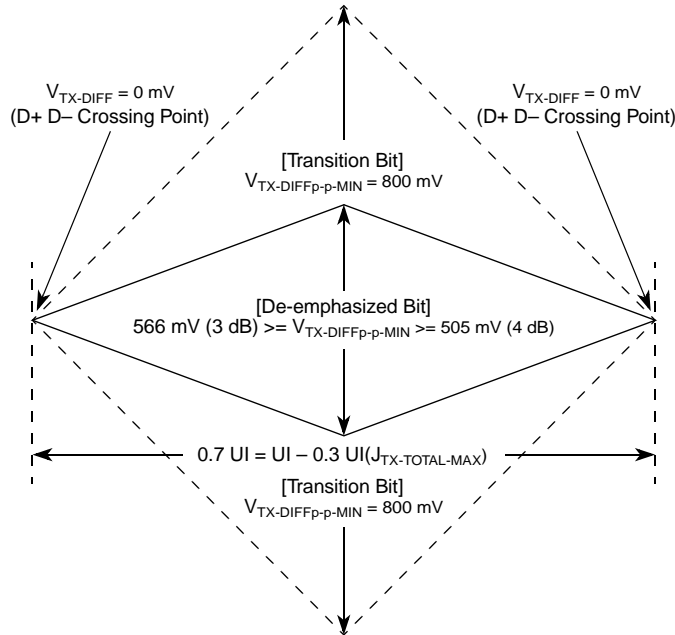
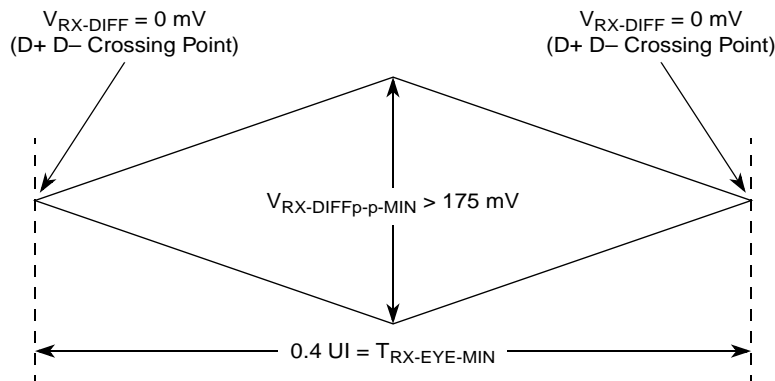
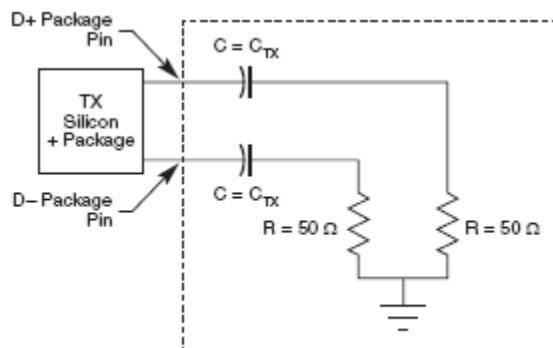

Figure 49. Minimum Transmitter Timing and Voltage Output Compliance Specifications
Figure 50. Minimum Receiver Eye Timing and Voltage Compliance Specification
Figure 51. Compliance Test/Measurement Load
2. Specified at the measurement point into a timing and voltage compliance test load as shown in Figure 51 and measured over any 250 consecutive TX UIs. (Also refer to the transmitter compliance eye diagram shown in Figure 49.)
4. The transmitter input impedance shall result in a differential return loss greater than or equal to 12 dB and a common mode return loss greater than or equal to 6 dB over a frequency range of 50 MHz to 1.25 GHz. This input impedance requirement applies to all valid input levels. The reference impedance for return loss measurements is 50 Ω to ground for both the D+ and D- line (that is, as measured by a vector network analyzer with 50- Ω probes, see Figure 51). Note that the series capacitors, C_{TX} , is optional for the return loss measurement.
5. Measured between 20%–80% at transmitter package pins into a test load as shown in Figure 51 for both V_{TX-D+} and V_{TX-D-} .
The TX eye diagram in Figure 49 is specified using the passive compliance/test measurement load (see Figure 51) in place of any real PCI Express interconnect + RX component. There are two eye diagrams that must be met for the transmitter. Both diagrams must be aligned in time using the jitter median to locate the center of the eye diagram. The different eye diagrams differ in voltage depending on whether it is a transition bit or a de-emphasized bit. The exact reduced voltage level of the de-emphasized bit is always relative to the transition bit.
2. Specified at the measurement point and measured over any 250 consecutive UIs. The test load in Figure 51 should be used as the RX device when taking measurements (also refer to the receiver compliance eye diagram shown in Figure 50). If the clocks to the RX and TX are not derived from the same reference clock, the TX UI recovered from 3500 consecutive UI must be used as a reference for the eye diagram.
4. The receiver input impedance shall result in a differential return loss greater than or equal to 15 dB with the D+ line biased to 300 mV and the D- line biased to -300 mV and a common mode return loss greater than or equal to 6 dB (no bias required) over a frequency range of 50 MHz to 1.25 GHz. This input impedance requirement applies to all valid input levels. The reference impedance for return loss measurements for is 50Ω to ground for both the D+ and D- line (that is, as measured by a vector network analyzer with $50\text{-}\Omega$ probes, see Figure 51). Note that the series capacitors, C_{TX} , is optional for the return loss measurement.
The RX eye diagram in Figure 50 is specified using the passive compliance/test measurement load (see Figure 51) in place of any real PCI Express RX component. In general, the minimum receiver eye diagram measured with the compliance/test measurement load (see Figure 51) is larger than the minimum receiver eye diagram measured over a range of systems at the input receiver of any real PCI Express component. The degraded eye diagram at the input Receiver is due to traces internal to the package as well as silicon parasitic characteristics which cause the real PCI Express component to vary in impedance from the compliance/test measurement load. The input receiver eye diagram is implementation specific and is not specified. RX component designer should provide additional margin to adequately compensate for the degraded minimum Receiver eye diagram (shown in Figure 50) expected at the input receiver based on an adequate combination of system simulations and the return loss measured looking into the RX package and silicon. The RX eye diagram must be aligned in time using the jitter median to locate the center of the eye diagram.
The reference impedance for return loss measurements is 50 Ω to ground for both the D+ and D- line (that is, as measured by a Vector Network Analyzer with 50 Ω probes—see Figure 51). Note that the series capacitors, $C_{PEACCTX}$, are optional for the return loss measurement.
The AC timing and voltage parameters must be verified at the measurement point, as specified within 0.2 inches of the package pins, into a test/measurement load shown in Figure 51.